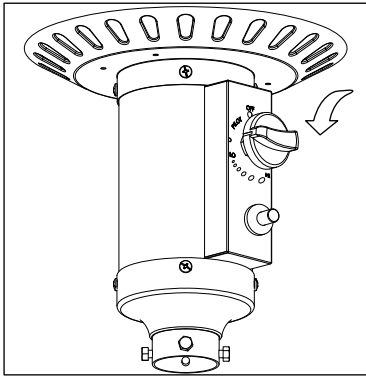

Figure 3
- Push in control knob and turn counterclockwise to “PILOT” or until the knob stops (Figure 3).